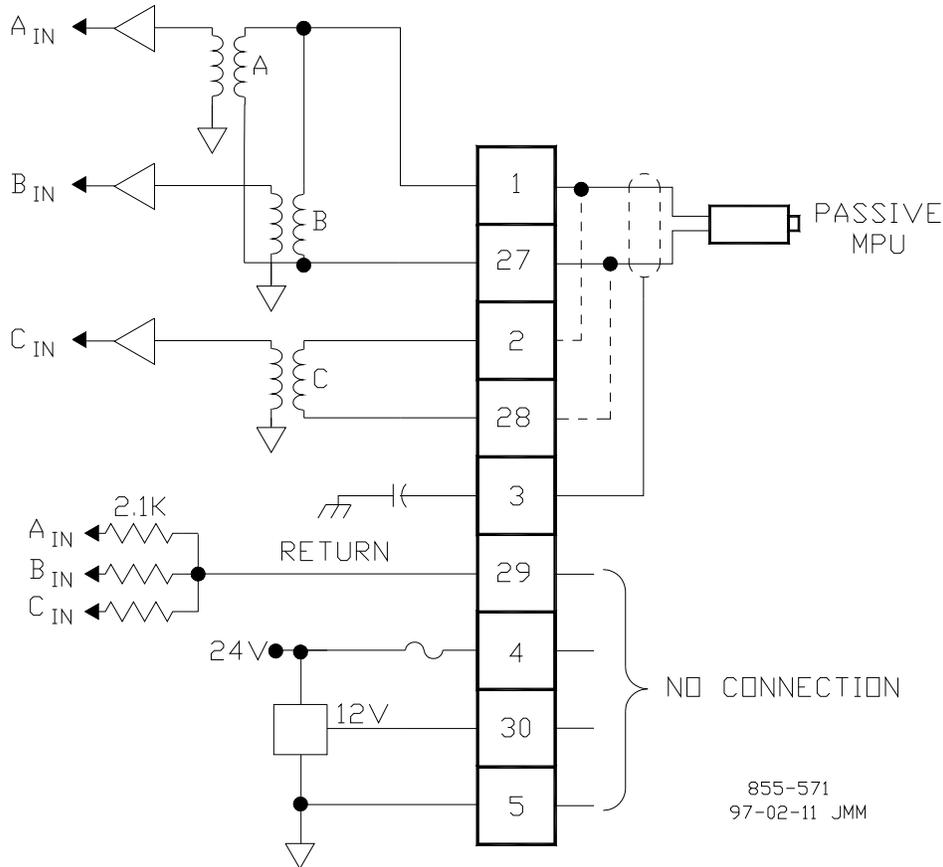

Figure 4-2. Example MPU Interface Wiring Diagram
Depending on an MPU's limitations, each input channel can be jumper configured to allow an MPU to drive either two or three inputs (some MPUs cannot drive three inputs). Wire jumpers must be installed to allow an MPU to drive into all three inputs. When the jumpers are not installed, only two input modules are driven by a MPU. With proper MPU, gear size, and MPU-to-gear clearance, speed measurement should be capable down to 100 Hz. Standard MPU clearance is recommended to be 0.25 to 1.02 mm (0.010 to 0.040 inch) from tooth face to pole piece. For information on selecting the correct MPU or gear size, please refer to Woodward manual 82510. See Figure 4-2 for wiring schematic.
Each ATM connects to the control's MPU & Analog I/O modules through individual cables, and provides a common cage-clamp terminal connection for customer field wiring. Figures 4-2 and 4-3 illustrate the different input wiring configurations based on the type of speed sensing probes used.
- MPUs only—Jumpers must be added to each channel as shown in Figure 4-2 to allow the "C" analog module to sense speed.